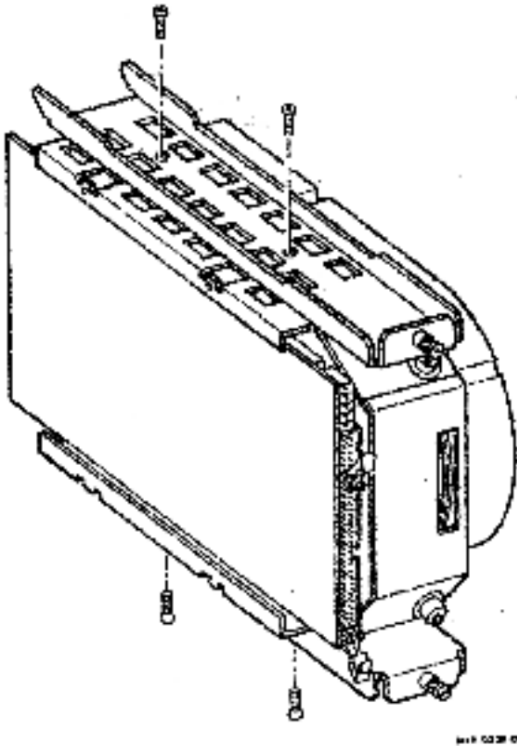

Figure 4-5: Installing the Slide Rails
1. Install the slide rails using the four screws provided (Figure 4-5).
2. Install the slide rails using the four screws provided. Refer to Figure 4-5 for the location of the screws.